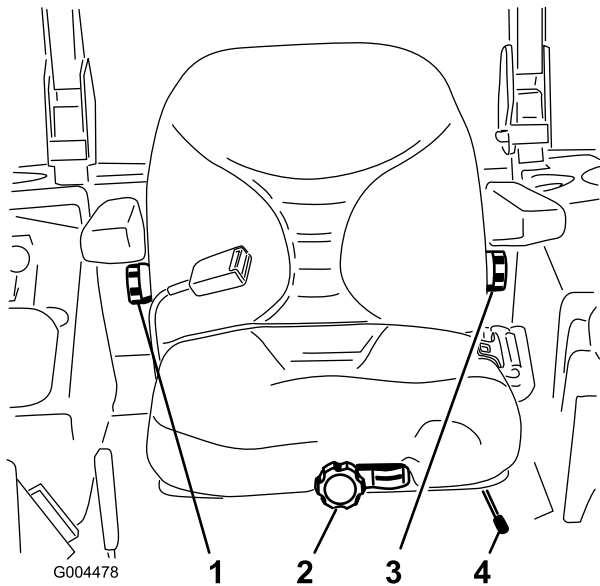

Figure 15
1. To adjust the seat, move the lever sideways to unlock the seat (Figure 15).
Without sitting on the seat, turn the knob in front in either direction to provide the best comfort (Figure 15).
To adjust the back of the seat, turn the knob, located under the right-side armrest, in either direction to provide the best comfort (Figure 15).
To adjust the back of the seat, turn the knob, under the left-side armrest, in either direction to provide the best comfort (Figure 15).